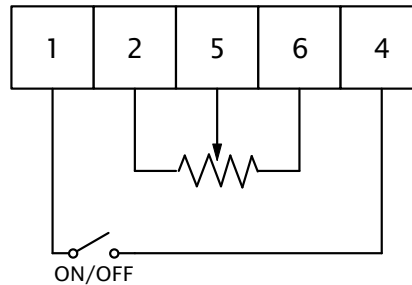

Figure 6.14: Analog Speed Control
- 16. Build the control circuit shown in Figure 6.14 so that turning the potentiometer clockwise will increase the motor's speed. Important: You must determine which wires of the potentiometer connect to terminals 2, 5, and 6. Note that the VFD provides +10 Volts DC between terminal 2 and 6, and that the potentiometer acts as a voltage divider to supply an adjustable 0–10 volts between terminals 2 and 5.